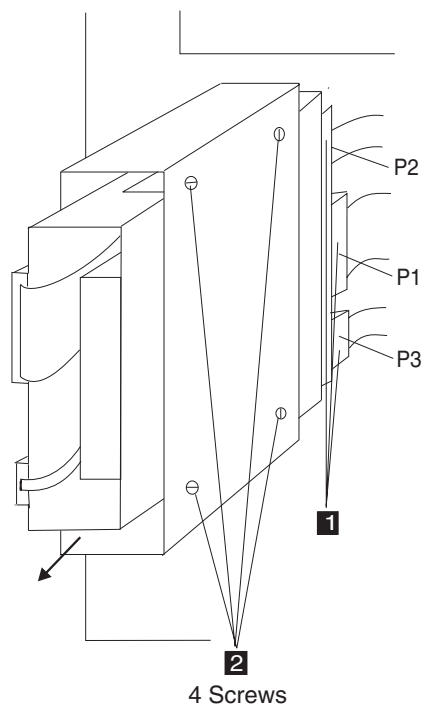

Figure 4-42. HDD Removal
25. Referring to Figure 4-42 on page 4-62, remove the HDD as follows: